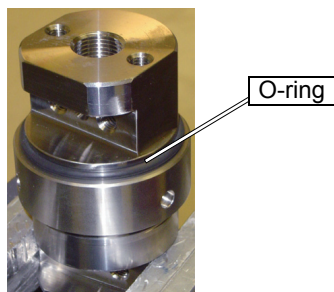

Figure C-28: Replace the O-ring with New One
3. Remove the large **O-ring** (Figure C-28), replacing it with a new O-Ring: